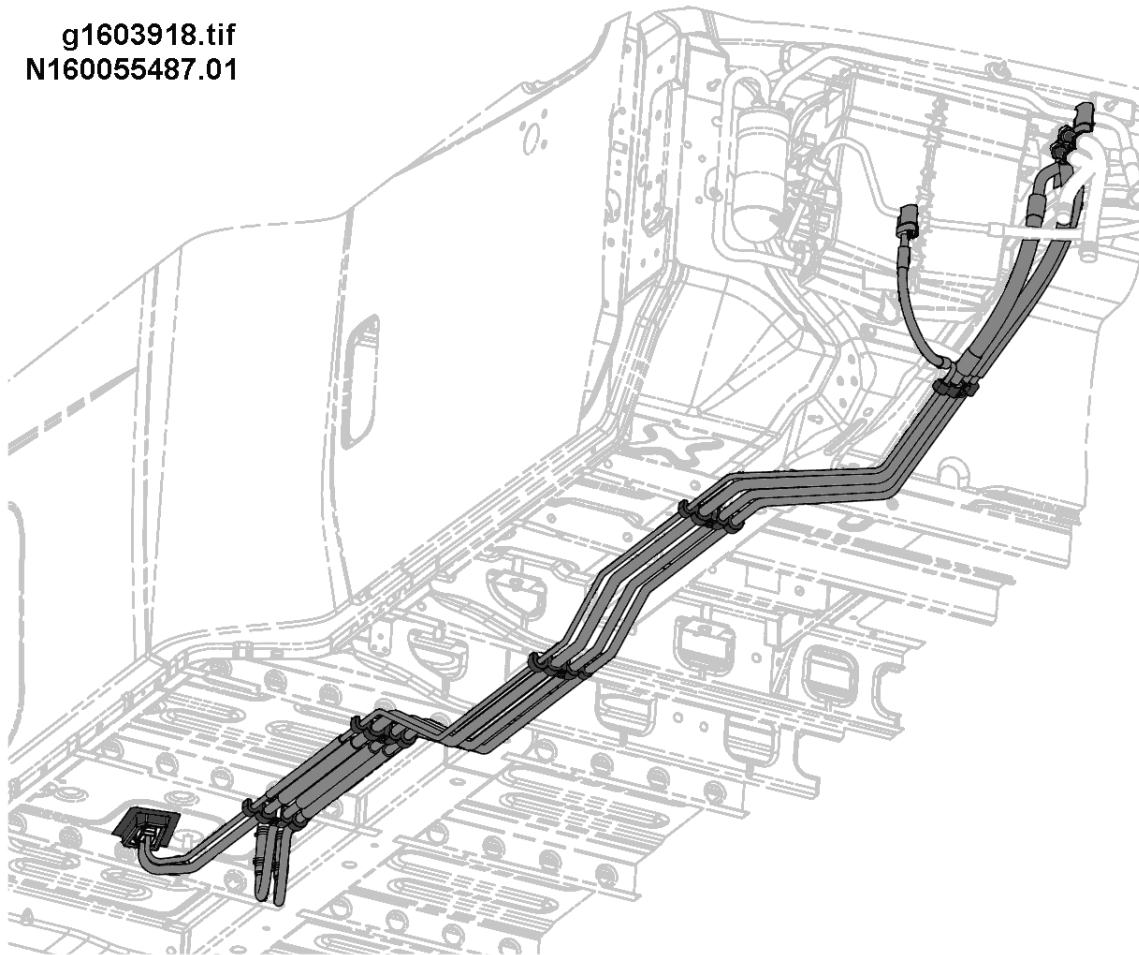

Figure 47 Heater/AC Lines Routing Under Cab
10. While placing as little strain on the A/C and heater lines as possible, loosen each of the remaining hose hangers enough to remove the heater line(s) from the hanger. Leave the hangers connected to provide support for the A/C lines (Figure 47).
1. With the ends sealed to prevent contamination, maneuver the new line into position from the rear (Figure 47).
7. While placing as little strain on the A/C and heater lines as possible, loosen each of the remaining hose hangers enough to remove the A/C line from the hanger (Figure 47). Leave the hangers connected to provide support for the heater lines.
7. Verify that heater and A/C lines are positioned correctly while tightening all remaining hanger bolts (Figure 47).